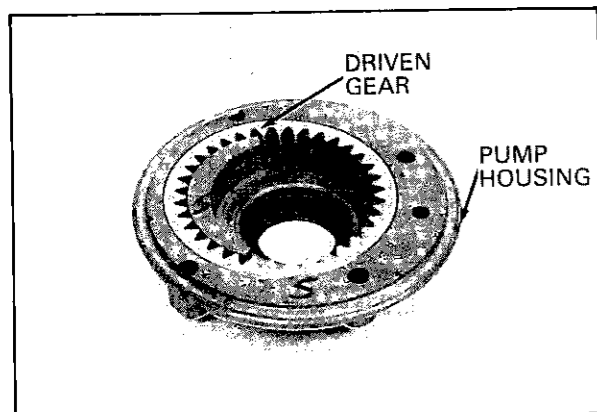

FIG. 48 PUMP DRIVEN GEAR INSTALLATION
57. Assemble the driven gear into the pump housing (Fig. 48).